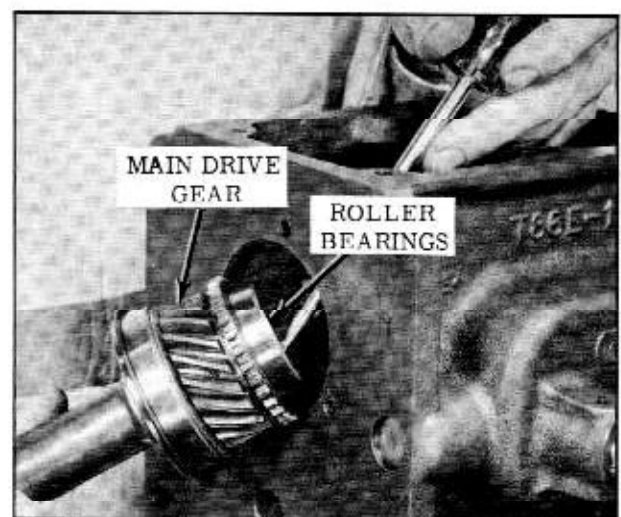

Fig. 10-9 Removing Main Drive Gear
8. Pull the main drive gear, and bearing out the front of the case. If necessary a brass drift may be used to tap gear out. Remove carefully and assist at rear with screw driver to prevent rollers from falling out the rear of the gear. (Fig. 10-9)
18. Place mainshaft and bearing assembly into case. Place first and reverse gear (yoke groove toward front), on shaft and engage gear with yoke. Place second speed gear on shaft, then synchronizer assembly with rear synchronizer ring. (Yoke groove to rear) (Fig. 10-9)